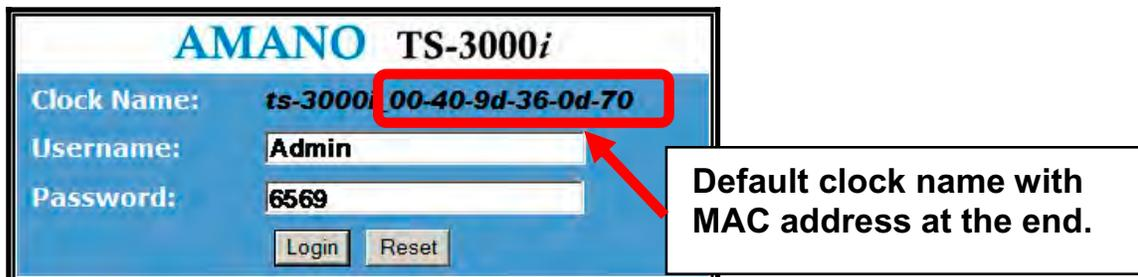

Figure 5-6: TS-3000i Web Clock Login
Step 3. When the clock(s) appears in the list, follow the tool tip and double-click on the desired TS-3000i clock to launch your browser and open the clock's web login (see Figure 5-6).